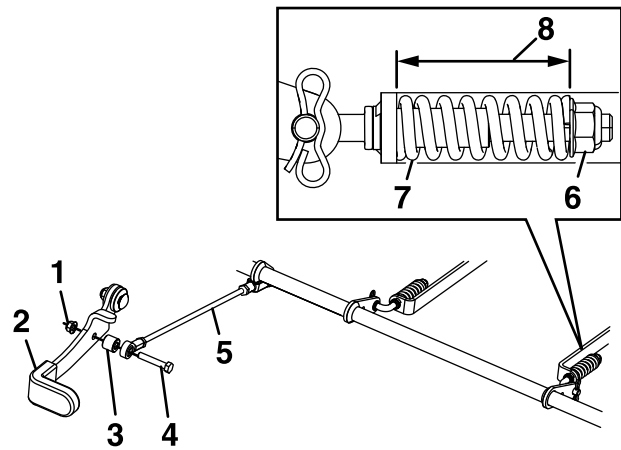

Figure 33
7. If adjustment is necessary, disengage the park brake. Remove and retain the nut, spacer, and screw from the brake linkage shaft (see Figure 33).
8. Check both spring lengths as shown in Figure 33. If adjustment is necessary, turn the
Insert the brake linkage shaft into parking brake hole and secure with the screw, spacer, and nut as shown in Figure 33. Repeat step 6 and readjust if necessary.